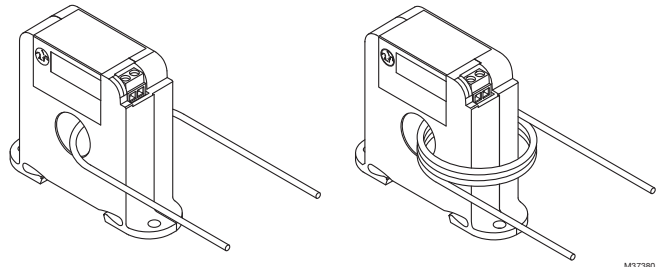

Fig. 3. Wires Through Sensors
The conductor being monitored may be looped through the sensor multiple times. The loops increase the current measured by the current switch. Each time the conductor passes through the current switch window equals one loop. (See Fig. 3) To determine the proper number of loops required, take the rated Fixed Trip Point or Minimum Adjustable Trip Point (see Table 2) of the current switch and divide it by the Operating Current of the Monitored Device, add one (1), then round up to the nearest whole number. Example: When using the CS-O-A, a small fan operating at 0.17A should be wrapped through the sensor four times to give you a total operating current of 0.68 Amps flowing through the CS-O-A. Formula Example: $(0.5A/0.17A) = 2.94 + 1 = 3.94$, which rounded up equals 4 loops.
LED didn't turn on and the current switch didn't activate	Verify that the current flowing in the conductor being monitored is above the fixed trip point as listed in the operating specifications. If the sensor is monitoring less than the fixed trip point See Fig. 3.
Red LED didn't turn on and the current switch didn't activate	Verify that the conductor you are monitoring is above the adjustable trip point. If the sensor is monitoring less than the adjustable trip point, see Fig. 3.